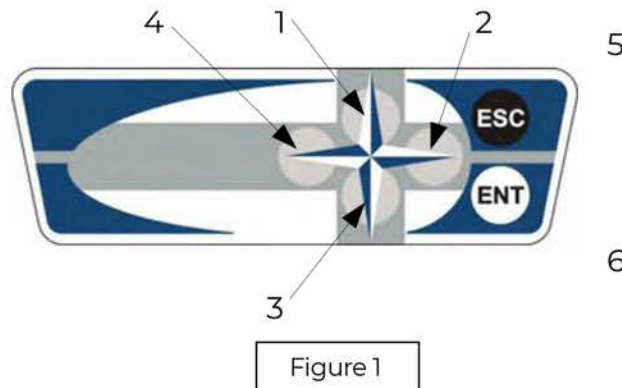

Figure 1
- Then open the hood and unscrew strut nuts while keeping the capsule opened. (Figure 1 below).
Select the warm-up program with the motion buttons (UP, DOWN, LEFT, RIGHT) until (blue box) is highlighted. Confirm your selection by pressing ENTER (see Figure 1).
- To cancel the Warm-Up program at any time press the ESCAPE button (see Figure 1) and follow the instructions from LCD screen.
- Move with the motion buttons until the settings box is highlighted and confirm your selection with the ENTER button (see Figure 1)
- To move up/down in the submenu, use the UP or DOWN buttons (see Figure 1). To select different settings press ENTER and use the LEFT or RIGHT buttons.
- Move with the motion buttons until the Service box is highlighted and confirm your selection with the ENTER button (see Figure 1).
To move up/down in the submenu, use the UP or DOWN buttons (see Figure 1). To select ON/OFF, use the LEFT or RIGHT buttons. To go back to the previous menu, press the ESCAPE button.
Software updates will ensure that you have the most up-to-date equipment in terms of programming and technology. Follow these instructions upon receiving software upgrades. · Highlight the Software box with the motion buttons and confirm your selection by pressing ENTER (see Figure 1).
- In the Main Menu, move with the motion buttons until Programs (blue box) is highlighted and confirm your selection by pressing ENTER (see Figure 1).
- To move up/down in the submenu use the UP or DOWN buttons (see Figure 1). Press ESCAPE to go back to the previous menu. To select the program press the ENTER button.